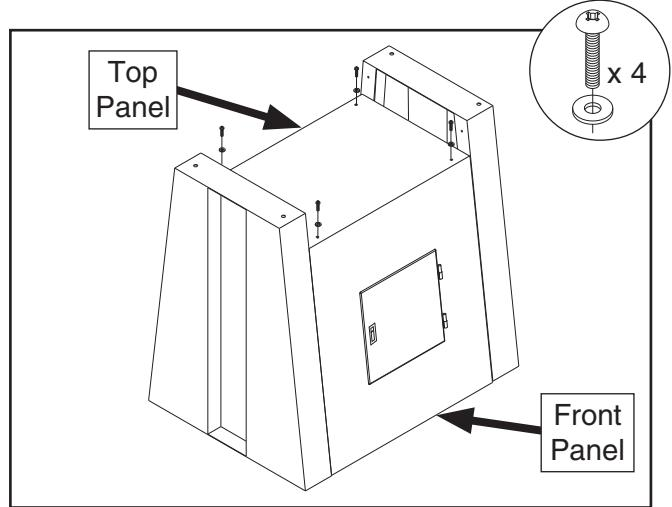

Figure 12. Top panel attached to front and rear panels.
- Attach top panel to front and rear panels with (4) M5-.8 x 8 Phillips head screws and 5mm flat washers (see **Figure 12**).